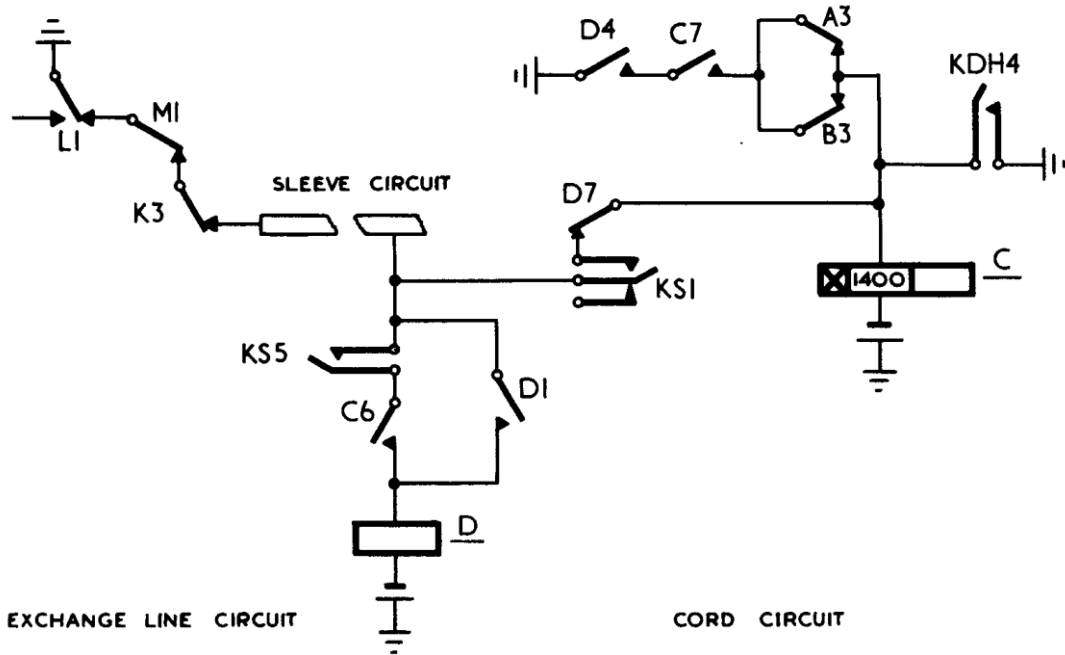

FIG. 8. OPERATION OF C AND D RELAYS.
**6.1 Outgoing Exchange Call by Operator.** A free pair of cords is selected, the front plug is inserted into the exchange line jack, and the Speak key is operated. Relay C in the circuit operates on its 1400Ω winding from earth at the exchange jack sleeve circuit (Fig. 8).
Operation of the Dial and Hold key re-operates the C relay and at the same time provides a holding loop for the exchange line via the dialling circuit. (Figs. 8 and 10). With relays C and D both operated, the two coils of relay A are connected in series to prepare a 400Ω loop circuit.